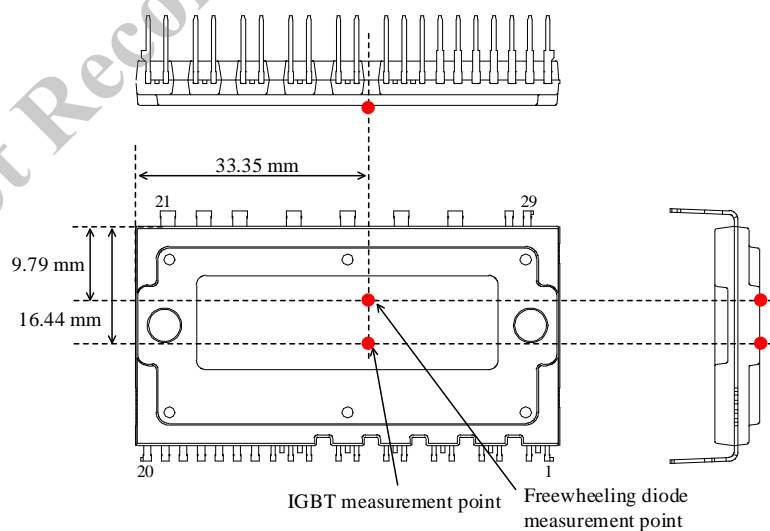

Figure 4-4. Case Temperature Measurement Point
(2) Refers to a case temperature at the measurement point described in Figure 4-4, below.